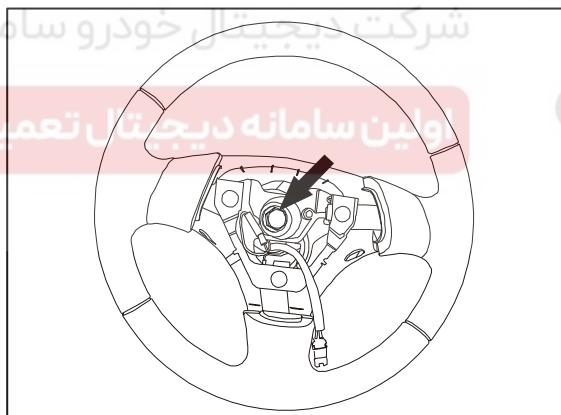

Figure 6-12 Disassembly of steering wheel
3. Cut off the cable joint of horn switch, screw off the fastening bolt of steering wheel and remove the steering wheel from steering column as shown in Figure 6-12.